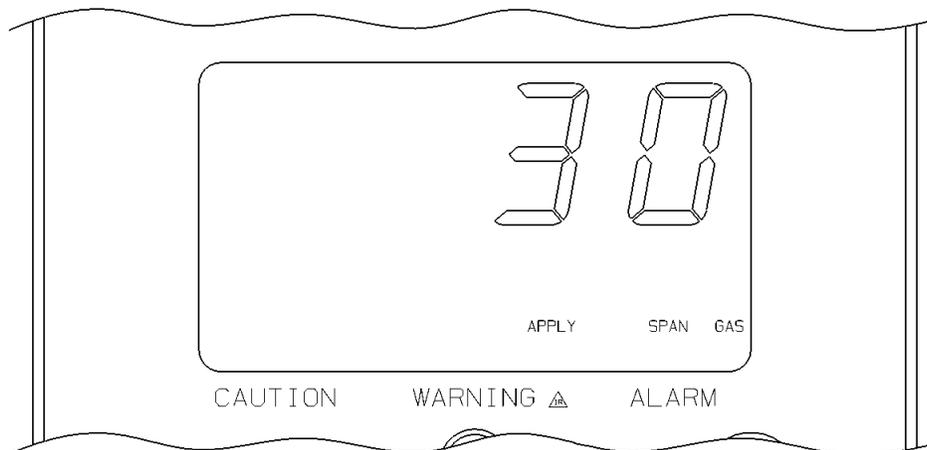

Fig. 32 Apply Span Gas Flag
- (1) The Toxgard II Gas Monitor automatically begins the span countdown after a successful zeroing of the unit. The span countdown is also 30 seconds (Fig. 32 "Apply Span Gas Flag").